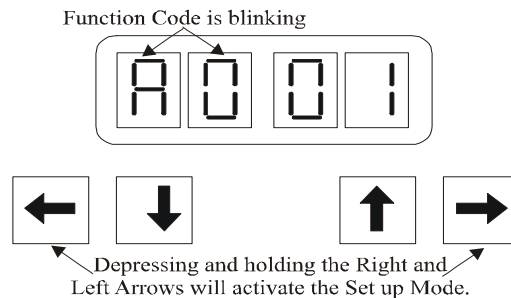

Figure ENG-283-12: Display with Set up Activated
- D Once the desired Function Code is visible on the Display, **depressing** and **holding** the Left and Right Arrow Push Buttons at the same time will activate Set Up. The left two Display pads will begin to blink, indicating that the value is ready to be changed. Refer to Figure ENG-283-12: Display with Set up Activated